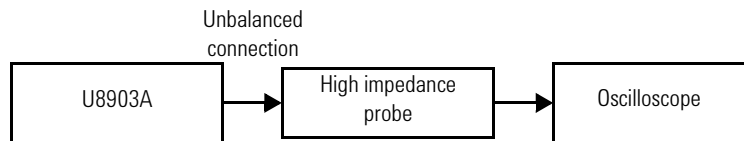

Figure 2-6 U8903A to oscilloscope connection for square wave rise time verification
- 1 Connect the U8903A output channel to be tested to the high impedance probe via the Unbalanced connection as shown in Figure 2-6. The high impedance probe is then connected to the oscilloscope. Preset both the U8903A and oscilloscope.